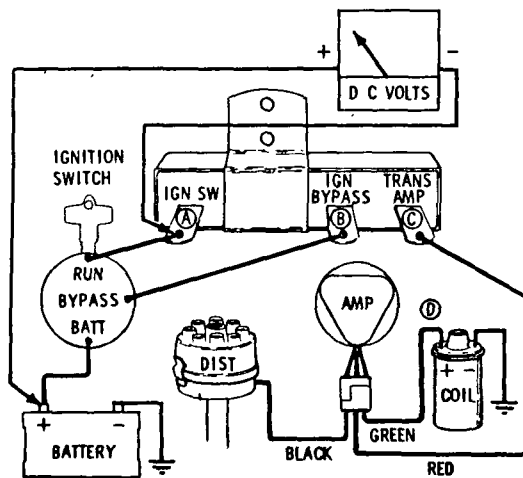

Figure 4
- I. Connect the voltmeter as shown in Figure 4. With the ignition "ON", engine not running, distributor breaker points "CLOSED", and all accessories turned "OFF", the voltmeter should not read more than 1.5 volts. A higher voltage reading indicates one of the following conditions may exist and must be corrected.